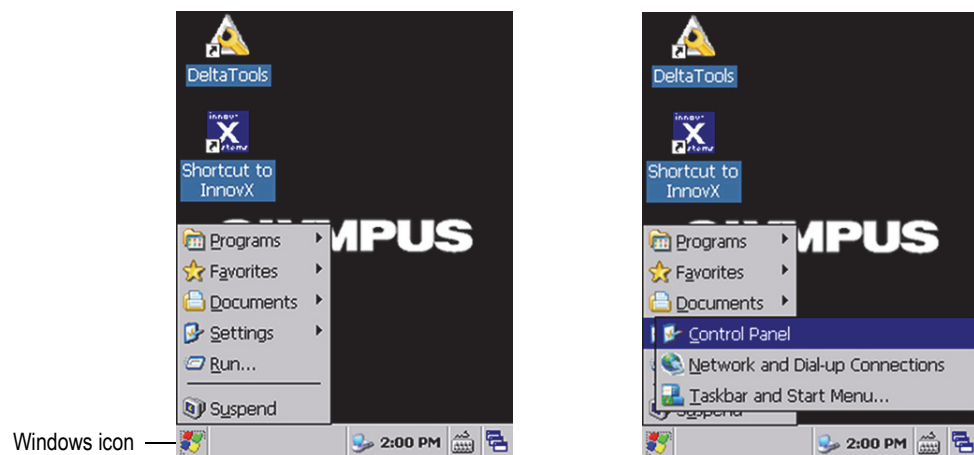

Figure G-6 DELTA desktop: Settings > Control Panel
5. Tap the Windows icon in the lower-left corner of the desktop to open the Startup menu (see Figure G-6 on page 179), and then tap **Settings > Control Panel**.